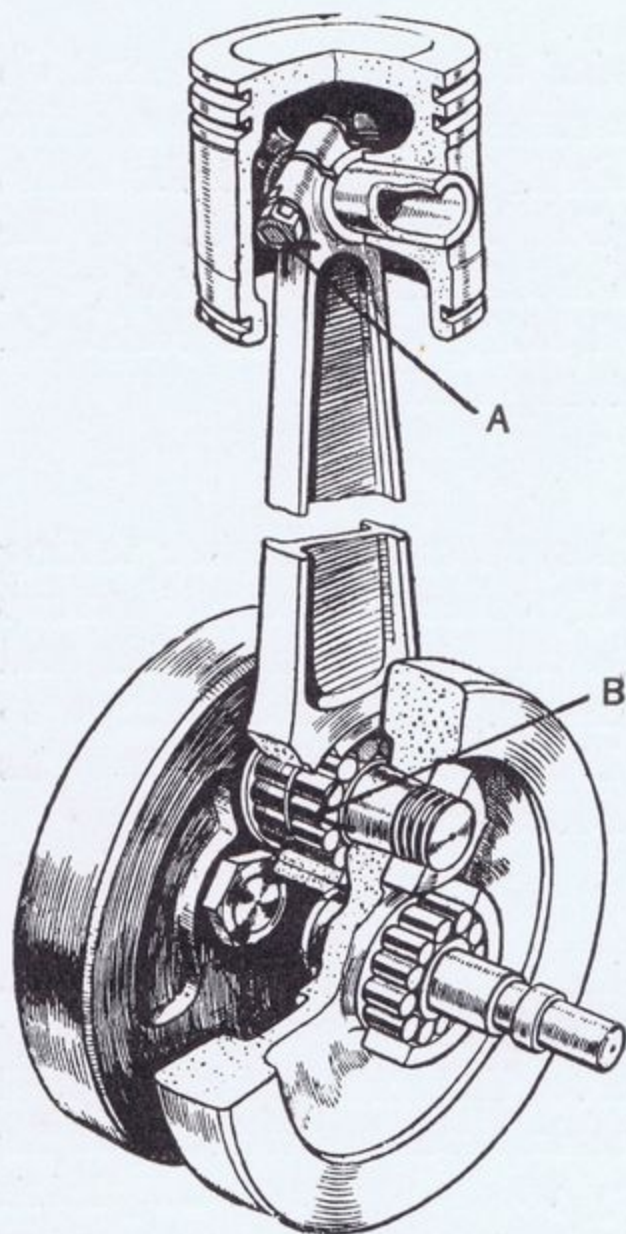

Fig. 5.—DETAILS OF CRANKSHAFT, CONNECTING ROD AND PISTON.
The flywheel assembly should be held in a vice. The crankpin nuts (227) must be removed (note locking washers). A piece of round $\frac{3}{8}$ -inch steel inserted in one of the holes in the rim of the flywheel will give leverage. Single-row Hoffman bearings are fitted on all models up to 1926. From 1927 onwards, a double-row bearing is fitted (see Fig. 5).